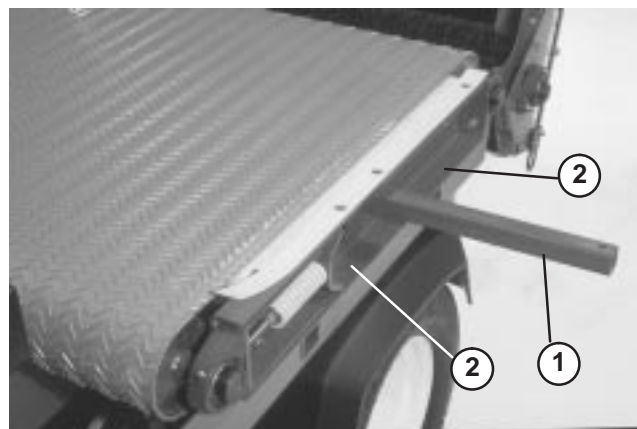

Figure 30
- 7. Remove (2) capscrews, washers and nut, on left side of machine, securing slider bed to frame (Fig. 30).
- Insert a lift bar into hole on left side of machine and raise lift bar to tip slider bed (Fig. 30).